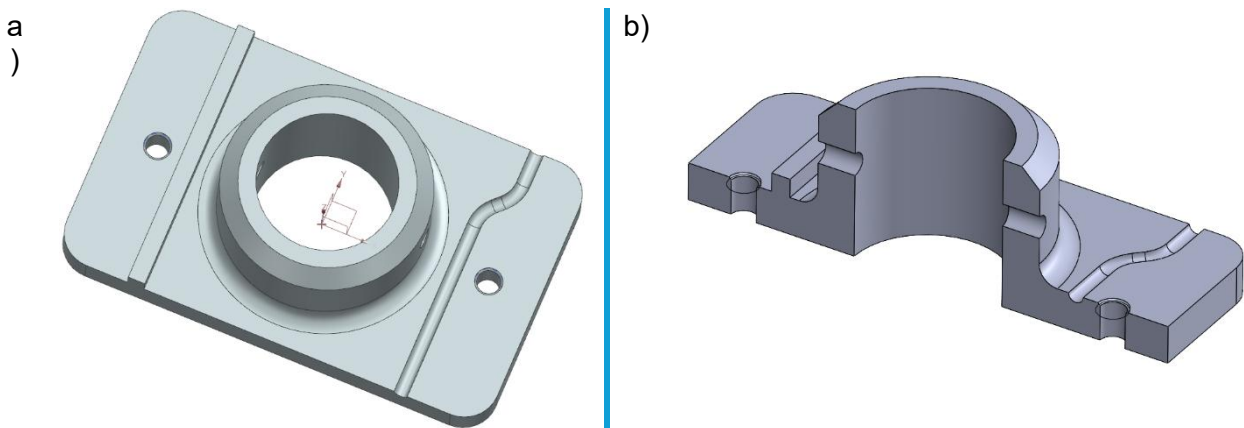

Fig. 1. Example solid: a) model, b) section view of model
- The aim of the exercise is to create a solid similar to the one shown in the Fig. 1.